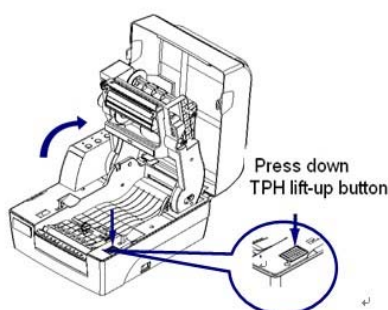

Figure 2.2.2
- 2) Press down the TPH lift-up button, and turn the ribbon holder up to the angle shown in the figure (stop the turning when a slight sound “flip-flop” is prompted) (see figure 2.2.2);